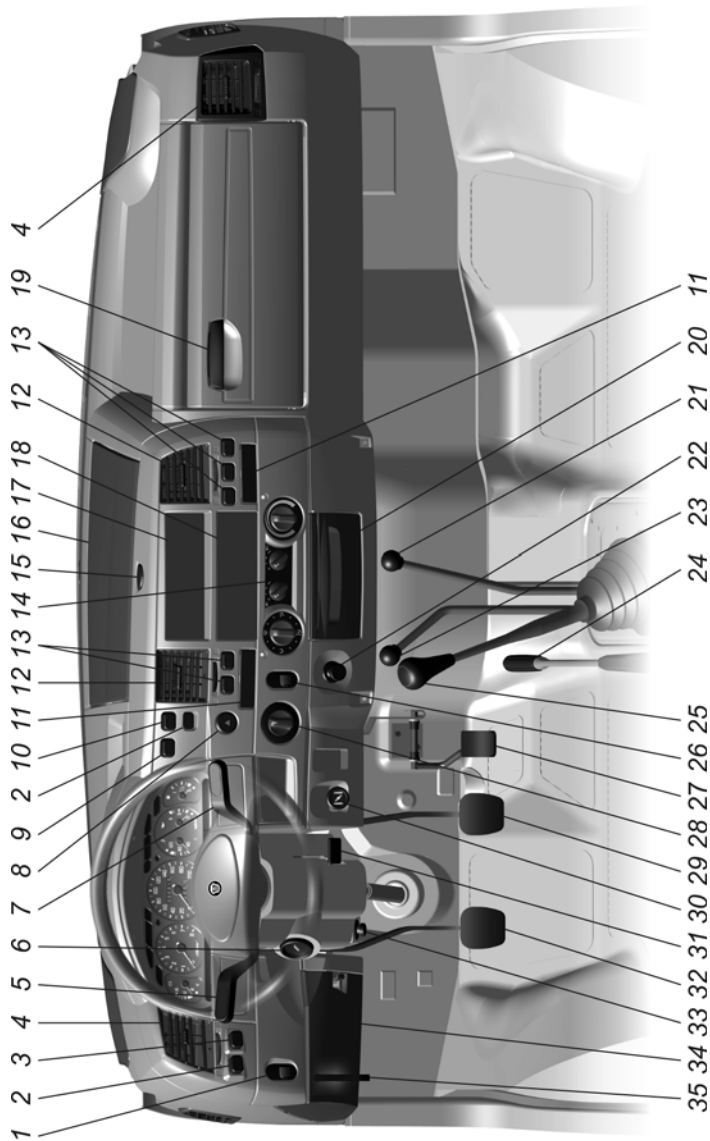

Fig. 4.1. Controls
**Positions of controls1) are given in fig. 4.1**